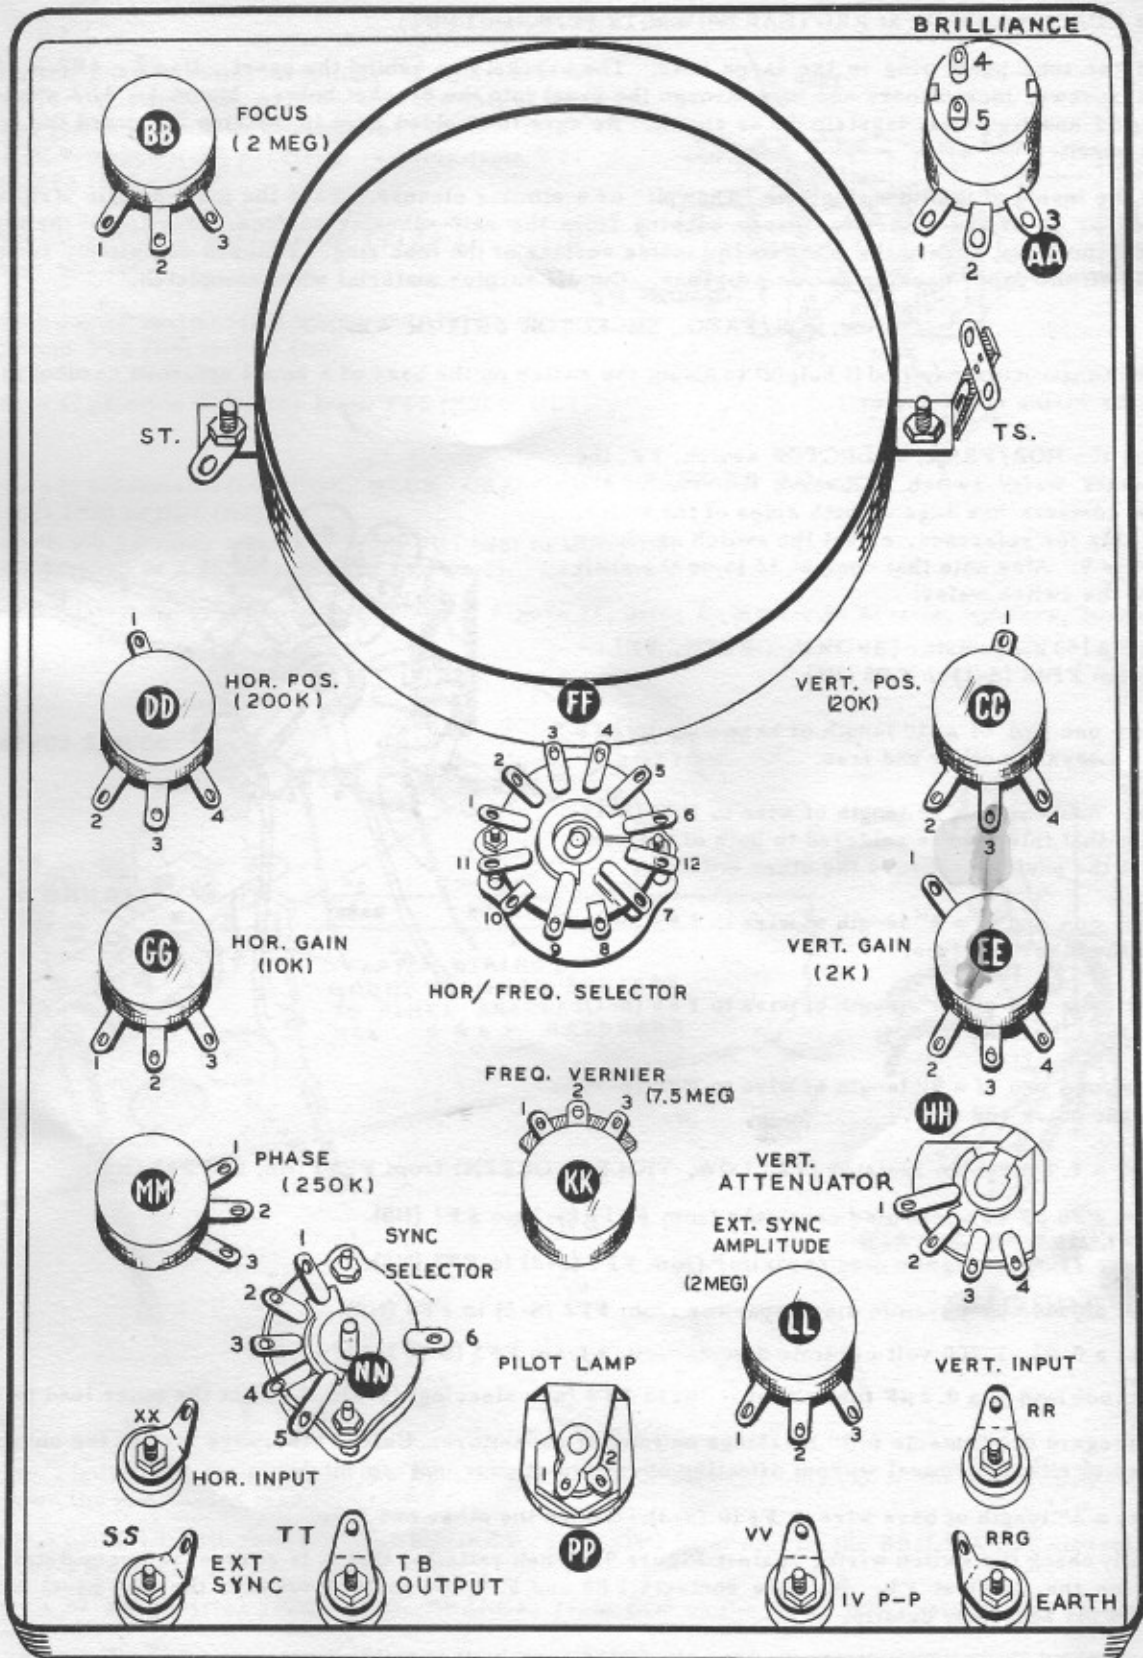

FIGURE 8.
- () Mount the 500 K Ω BRILLIANCE control (insulated shaft) AA on the back of the panel, locating the terminals as indicated in Figure 8. Follow Figure 4 for assembly details.
- () Mount the 250 K Ω PHASE control at MM, locating the terminals as shown in Figure 8.
- () Mount the 5-terminal SYNC. SELECTOR wafer switch at NN, being sure that the terminals are oriented as shown in Figure 8. This control has a dummy tag for use as a tie point.